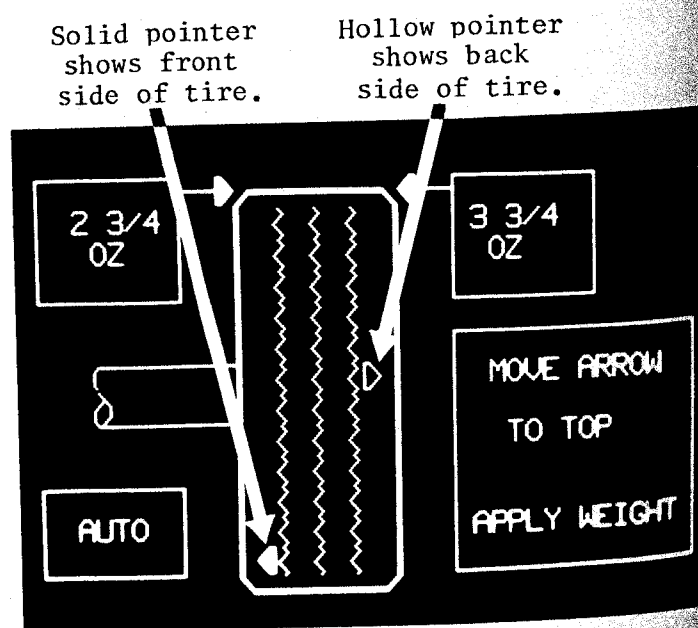

FIGURE 10. LOCATION ARROWS
- 3). Raise the tire shield. The display shows weight location pointers. Refer to the example in Figure 10.